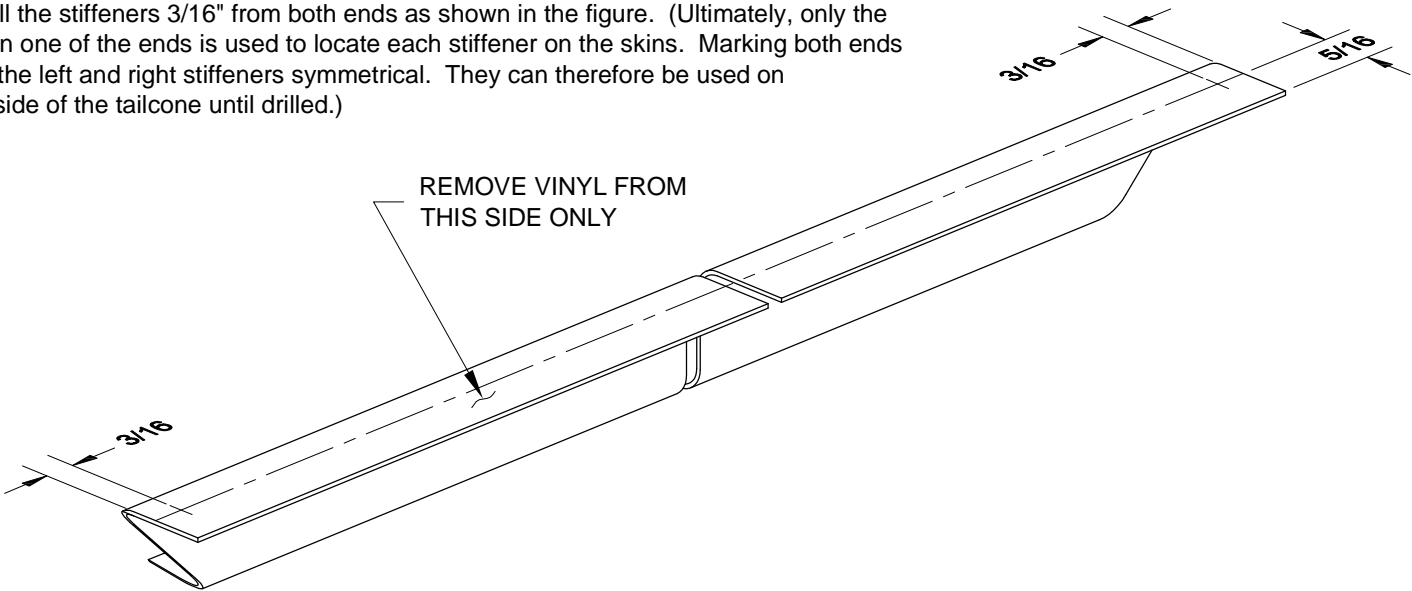

FIGURE 3: MARKING THE FUSELAGE STIFFENERS
Step 4: Remove the vinyl from the side of the F-1047 Fuselage Stiffeners which will rest against the skins as shown in Figure 3. (Leave the vinyl on the other side; it will make it easier to slide the stiffeners through the bulkheads and frames later.)
Draw a rivet hole centerline along the entire length of each stiffener 5/16" from the edge as shown in the Figure 3.